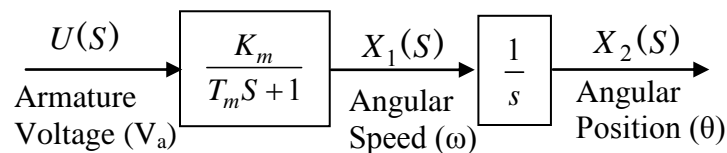

Figure-1
- 01** A D.C motor control system has the form shown in figure-1. The two state variables (angular speed and angular position) are available for measurement. [16]